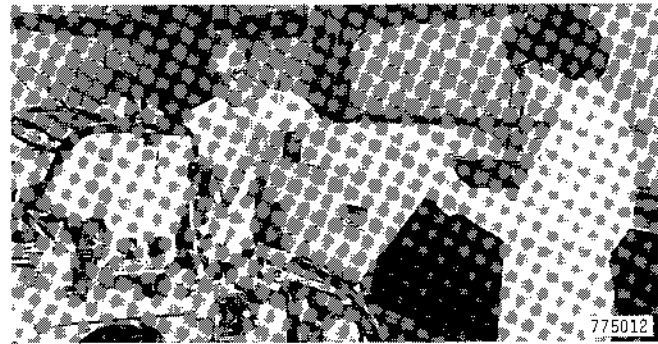

Figure 80
5. Install fender and connect light wires, Figure 80.